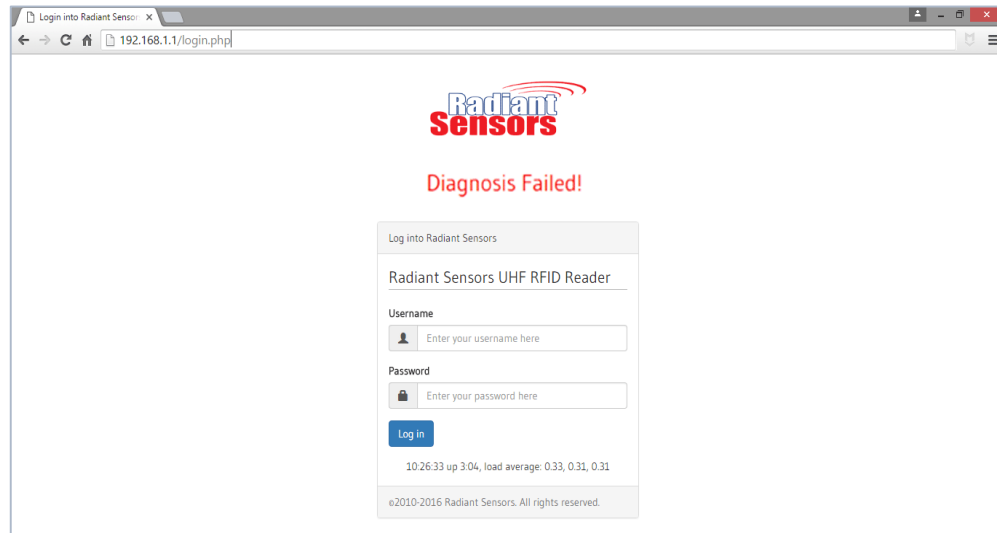

Figure 6, Login Page (Connection Failed)
- 5- If you see “*Diagnosis Failed!*” message (Figure 6), it means that there exist problems with **RSWR-400**'s hardware or start-up process. In this case, **RSWR-400** makes 5 short beeps. Contact Radiant Sensors support team to figure out the problem.